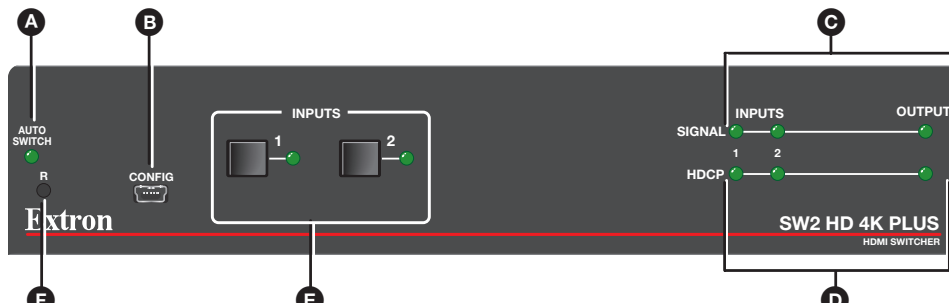

Figure 4. SW2 HD 4K PLUS Front Panel
- **Config port** — Connect a USB mini-B cable between the front panel USB connector (see figures 4 and 5, **B**, on page 4) and a USB port on your computer for control via USB.